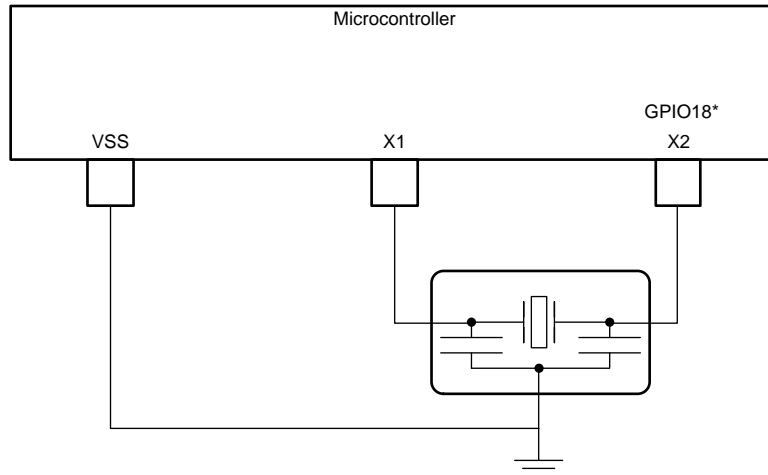

Figure 5-14. External Resonator
- An external resonator. The resonator should be connected across X1 and X2 with its ground connected to VSS as shown in Figure 5-14.